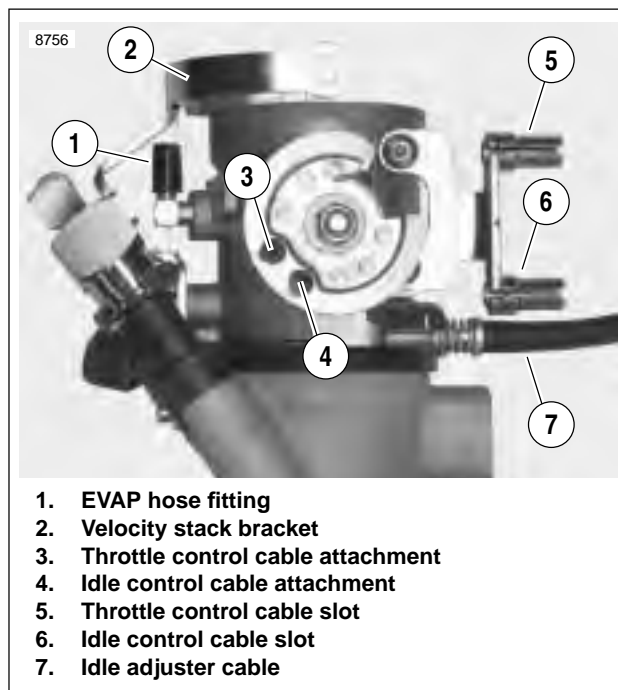

Figure 4-212. Throttle Cable Bracket (Typical)
3. See Figure 4-212. On California models, pull EVAP hose from fitting (1).